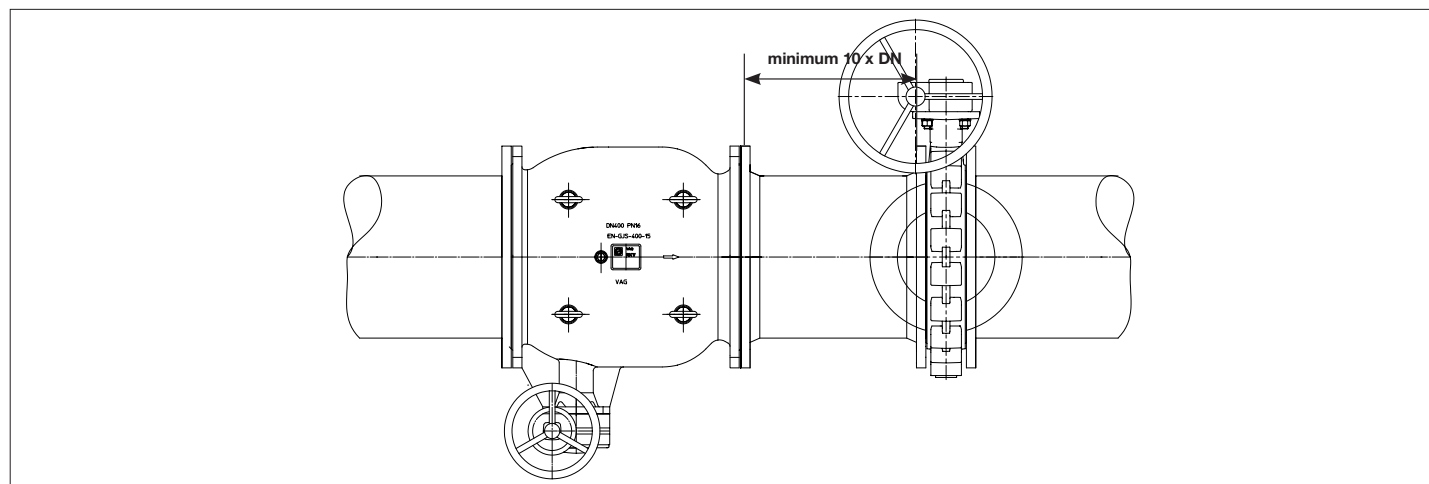

Figure 8: Installation of the VAG CEREX® 300 Butterfly Valve downstream of control valves
- When installing a butterfly valve downstream of a control valve or a plunger valve, make sure that there is enough space between them (minimum 10 x DN) (see Figure 8).